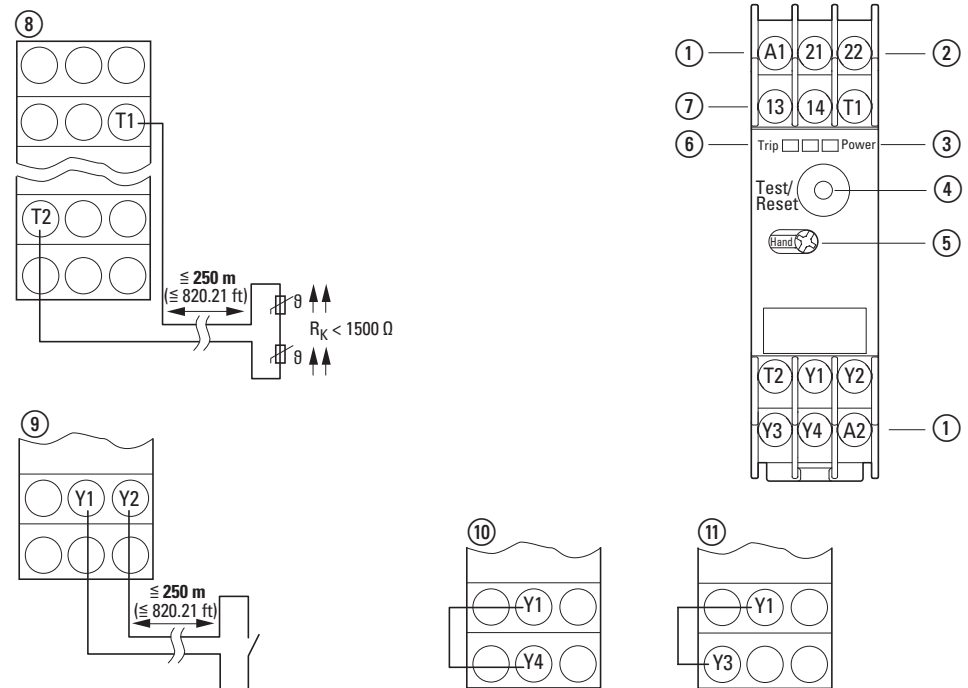

Figure 6: Connection terminals EMT6...
The EMT6, EMT62, EMT6-K and EMT6(230V) devices have a setting fixed to "Automatic reset" mode. The automatic reset can also be selected with the EMT6-DB, EMT6-DB(230V), EMT6-KDB and EMT6-DBK. The selector switch (→ Figure 6, page 41, legend ⑤) is set to AUTO for this purpose.
The manual reset can also be selected with the EMT6-DB, EMT62-DB, EMT6-DB(230V), EMT6-KDB and EMT6-DBK devices. The selector switch (→ Figure 6, page 41, legend ⑤) is set to “Manual” for this purpose.
Zero-voltage protection can be disabled by bridging terminals Y1 and Y4 (→ Figure 6, page 41).
Short-circuit protection can be disabled by bridging terminals Y1 and Y3 (→ Figure 6, page 41).